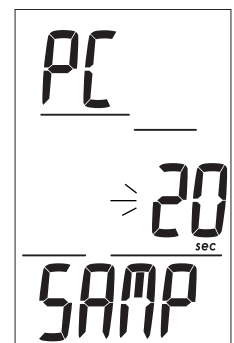

Fig. 35 - Set SAMPLING
**Set Sampling Rate (SR)**, information includes (Fig. 35):